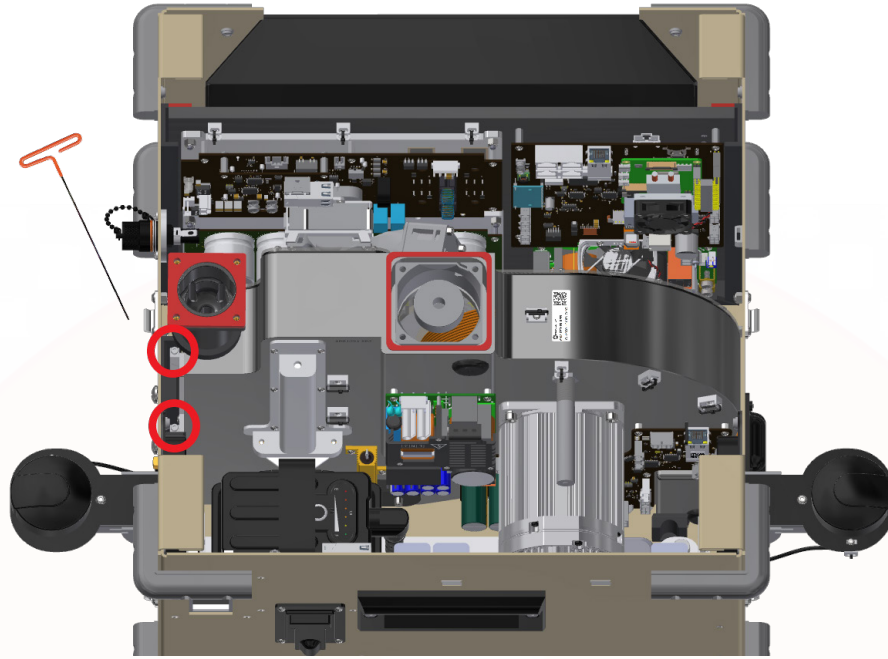

Figure 45: Loosen Tether Reel Fasteners
2. Use the long 2.5 mm hex key (included) to loosen the two Tether Reel fasteners located on the side of the Tether Reel (**Figure 45**).